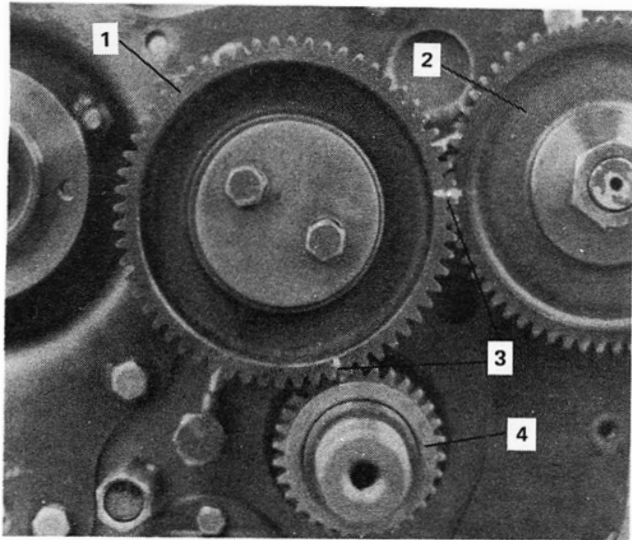

Figure 36
18. To install the idler gear, coat the bearing with oil and align the idler gear mark with the crankshaft gear mark, Figure 36. Tighten to the torque specified on page 30.
21. Engage the two tachometer gears together and then install the camshaft gear onto the end of the camshaft. Align the mark on the camshaft gear with the "O" mark on the idler gear, Figure 36, and tighten the camshaft gear nut to specified torque page 30.